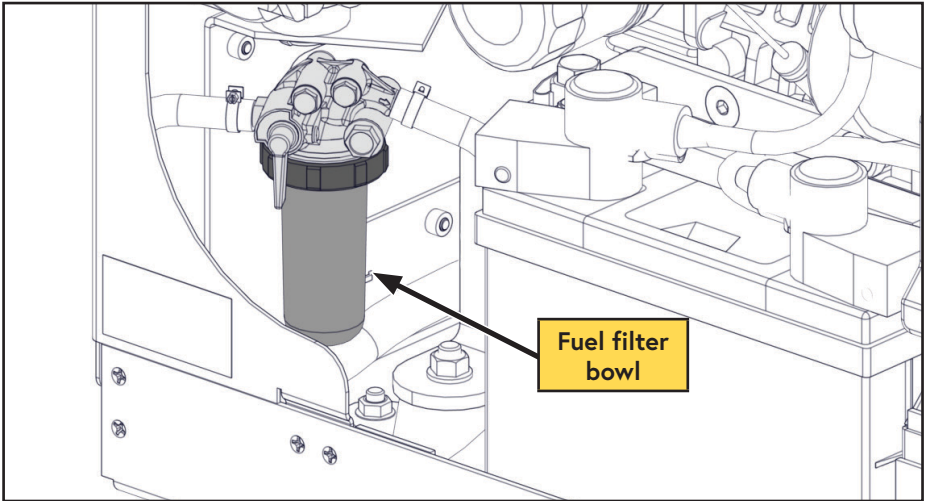

Figure 40 — Remove fuel filter
- ☐ Remove the fuel filter bowl (Figure 40).